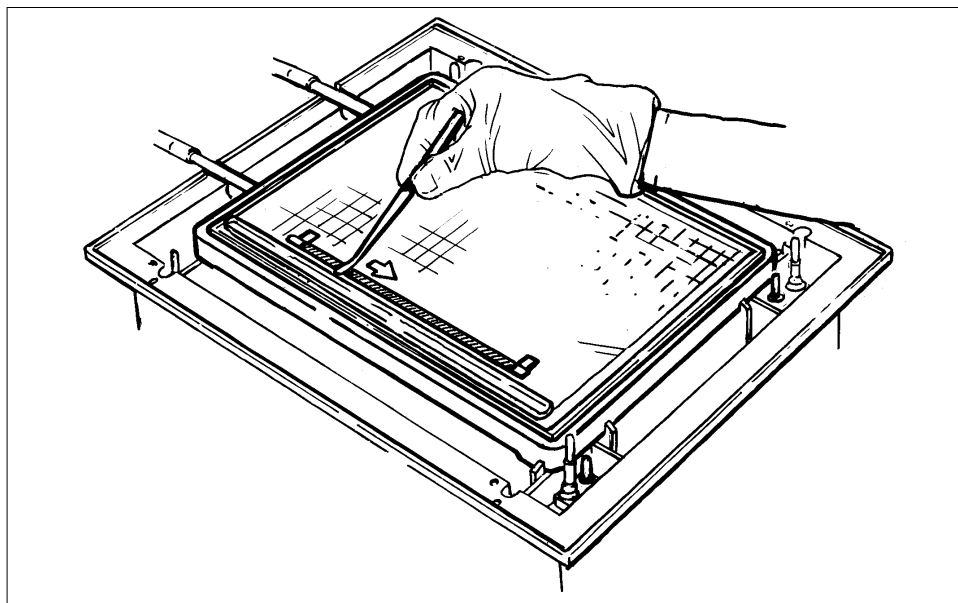

Fig. 30.
- Stroke the top of the strips gently with the forceps to remove any trapped air bubbles (Fig. 30).